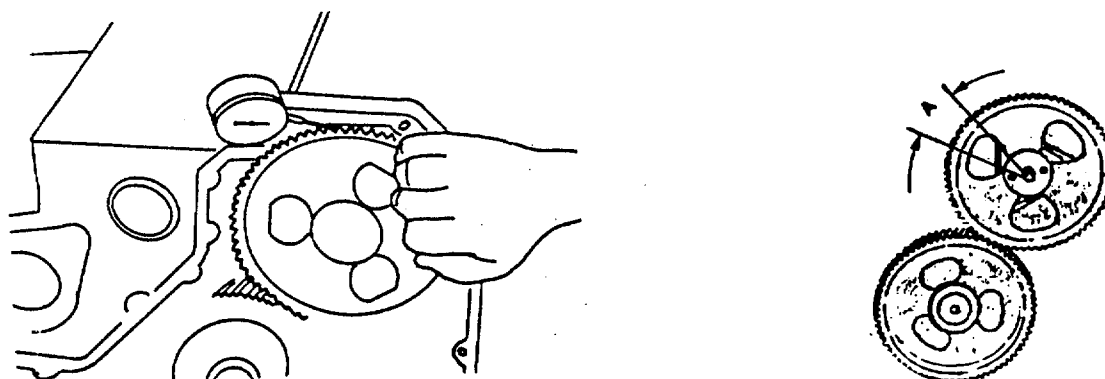

FIGURE 2-27. Gear Lash Measurement.
- c. Check the gear lash. Position an indicator on the tooth of the injection pump drive gear. Mark the pump drive gear for further analysis if backlash exceeds limits (FIGURE 2-27).